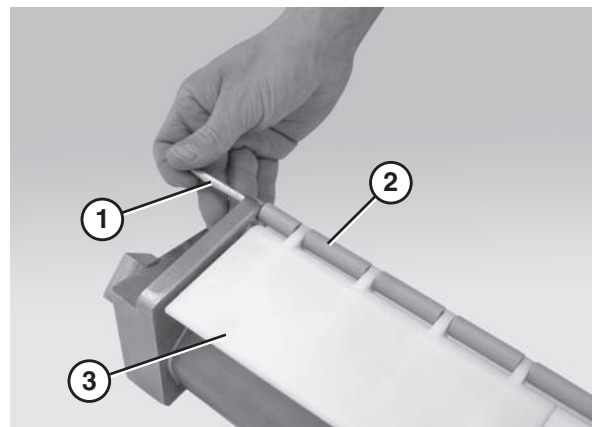

Figure 72
5. Remove the nose bar shaft (**Figure 72, item 1**), the rollers (**Figure 72, item 2**) and the roller mounts (**Figure 72, item 3**).